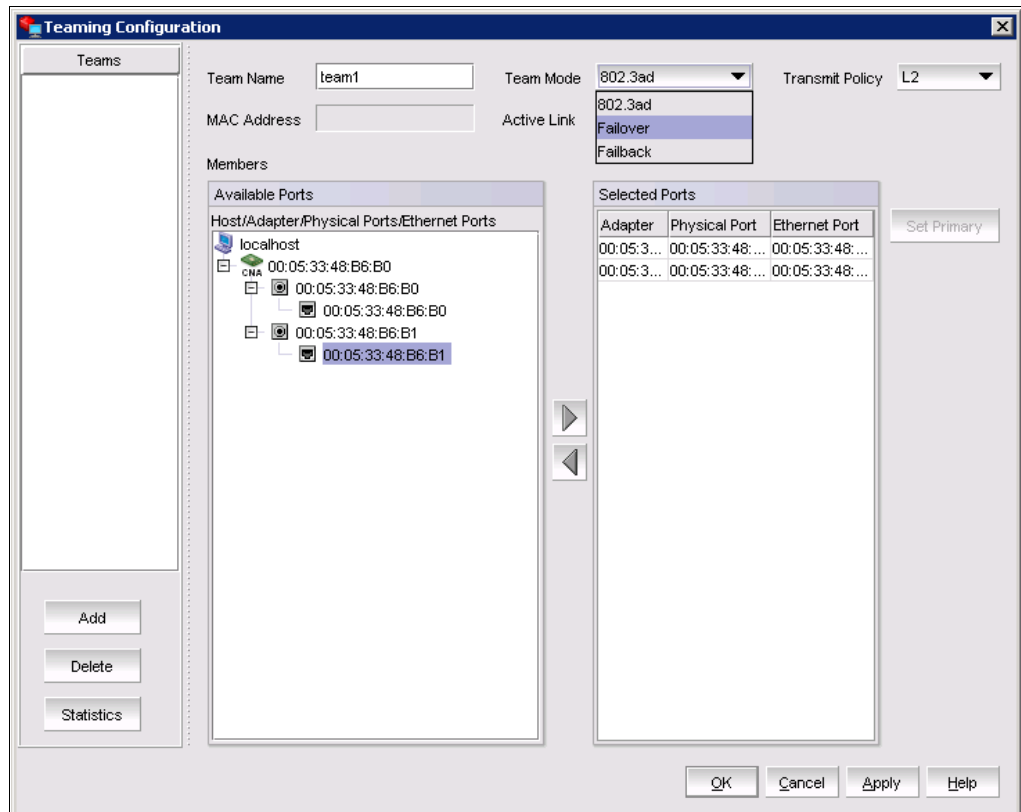

Figure 7-108 Teaming Configuration window
3. In the Teaming Configuration window (Figure 7-108), enter the following items: